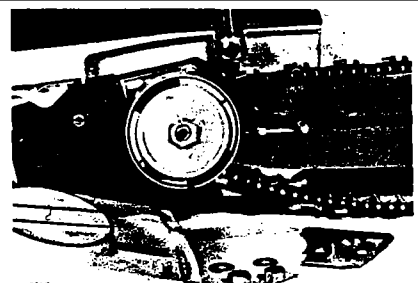

Figure 3
3. Place the chain over the sprocket and engage the drive link tangs between sprocket teeth. Figure 3